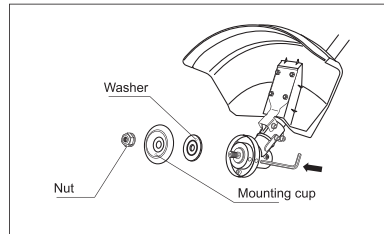

fig. 5
- Align the holes in the gearbox cup and the flange washer. Insert the metal locking pin or hex key from the delivery set into the holes of the gearbox cup and the flange washer. Rotating the nut clockwise, remove it, as well as the cup and washer from the gear spindle (fig. 5).